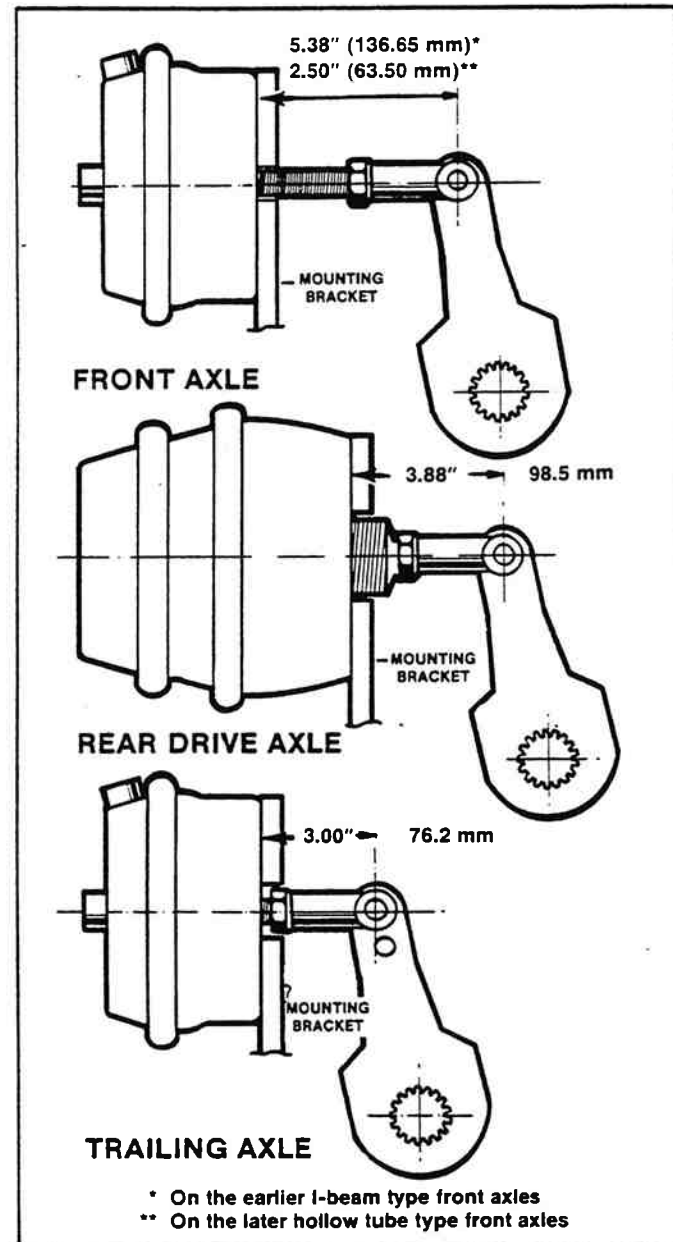

Figure 4-37. Push Rod Adjustment, Automatic and Standard Slack Adjusters.
10. Refer to figure 4-37 to confirm the distance measured from the brake chamber to the clevis pin. This measurement must be met by the slack adjusters at both ends of the same axle.